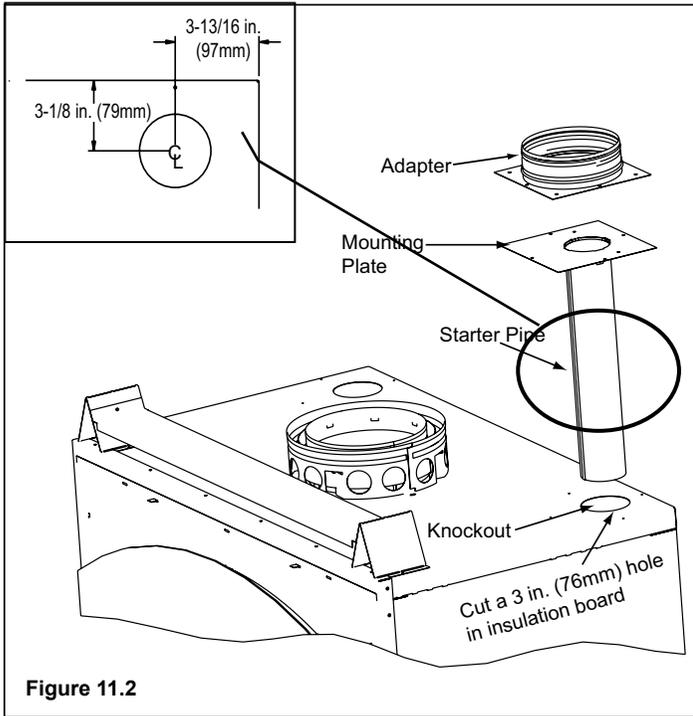

Figure 11.2
1. Remove the knockout or cover plate from the top of the fireplace and discard it. See Figure 11.2.
2. Cut a 3 in. (76mm) hole in the insulation board as per the dimensions shown in Figure 11.2.